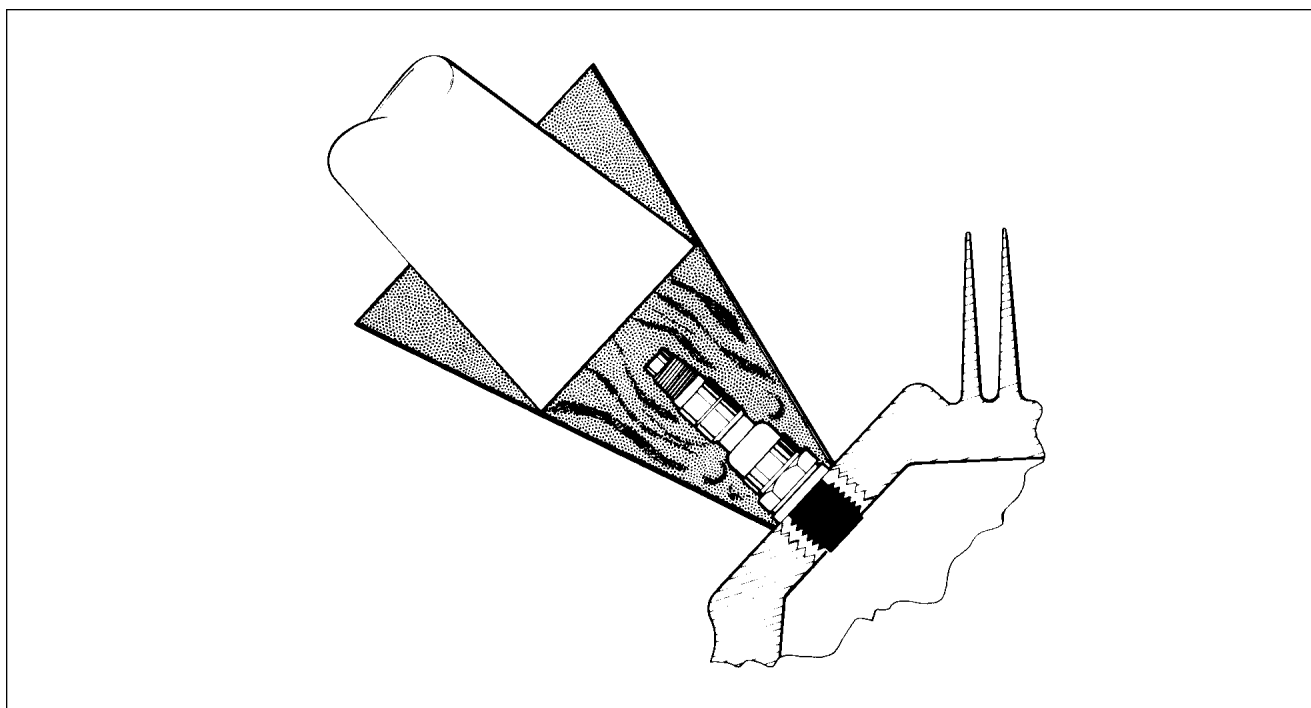

Figure 74-8. Removing Frozen Spark Plug
4. Removal of seized spark plugs in the cylinder may be accomplished by application of liquid carbon dioxide by a conical metal funnel adapter with a hole at the apex just large enough to accommodate the funnel of a CO₂ bottle. (Refer to Figure 74-8.) When a seized spark plug cannot be removed by normal means, the funnel adapter is placed over and around the spark plug. Place the funnel of the CO₂ bottle inside the funnel adapter and release the carbon dioxide to chill and contract the spark plug. Break the spark plug loose with a wrench. A warm cylinder head at the time the carbon dioxide is applied will aid in the removal of an excessively seized plug.